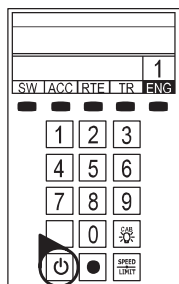

Figure 2. LEGACY start-up
5. **Press the Start Up button on your LEGACY CAB-2 Remote, shown in Figure 2. Then, throttle up and move 'em out!** Your engine sound will start up, and the locomotive-specific touch screen buttons will populate the remote. For more information on operating your locomotive set with the LEGACY system, please refer to the LEGACY section of this manual. Additional information is also found in the LEGACY System Manual, available online at www.lionel.com.